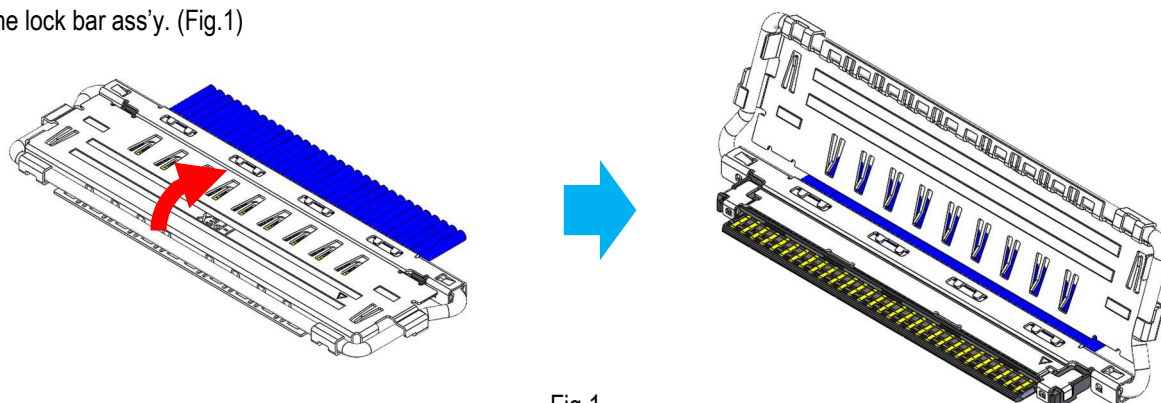

Fig.1
- ① Open the lock bar ass'y. (Fig.1)